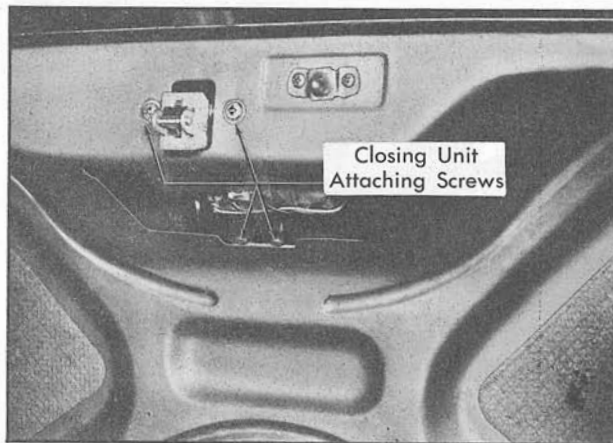

Fig. 17-58 Power Closing Unit
3. Remove four screws securing unit to lid; then, remove unit from between lid inner panels through access hole, Fig. 17-58.
(95) Rear Compartment Lid Power Control Lock Assembly Removal and Installation